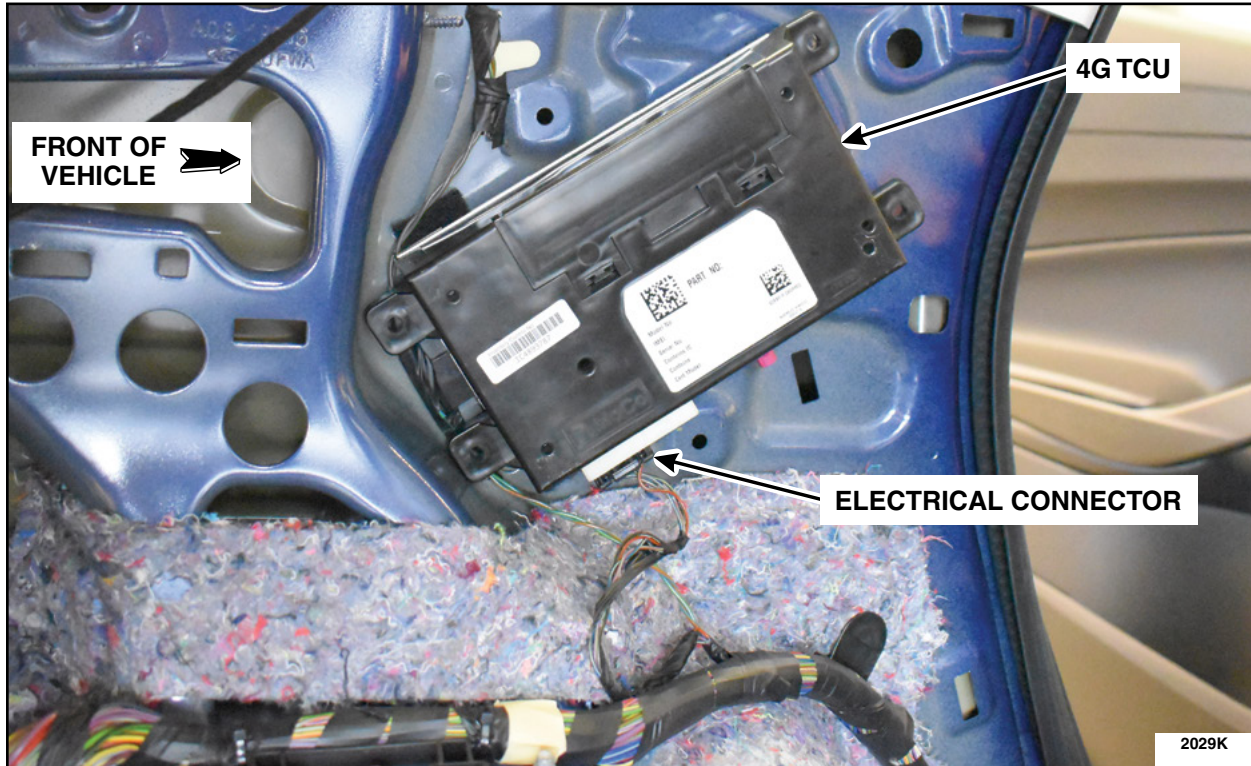

FIGURE 10
12. Connect the electrical connector into the 4G TCU. See Figure 10.